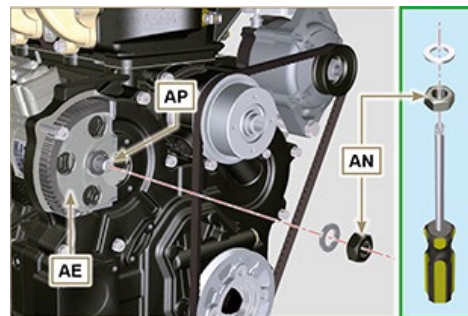

Fig. 6.17
3. Ensure that the correct advance value has remained unchanged, tighten nut **AN** on shaft **AP** (as shown in **Fig. 6.17**, is allowed the aid of